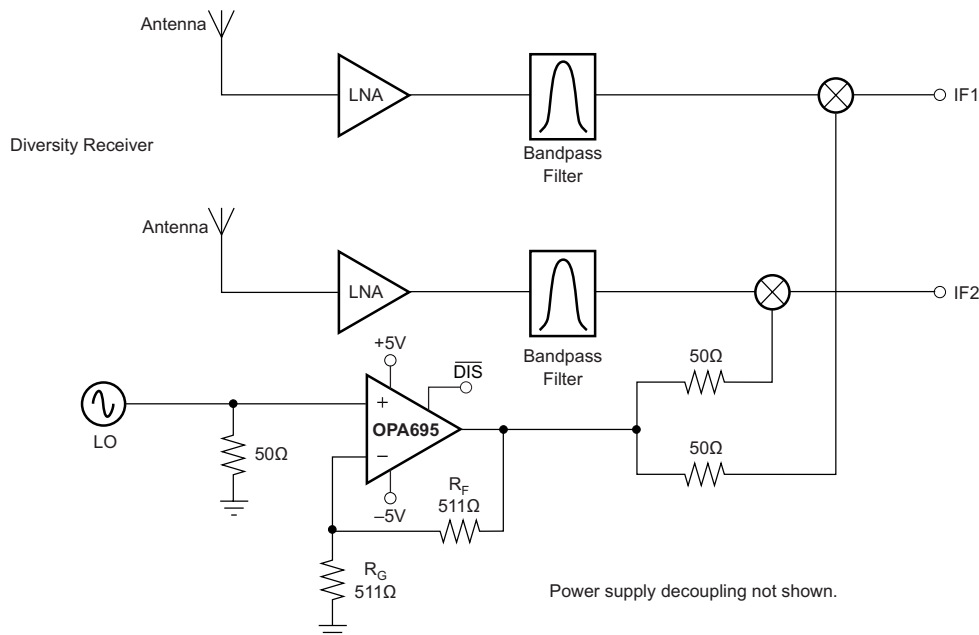

**Figure 54. Dual Output LO Buffer**
The OPA695 can also be used to buffer the Local Oscillator (LO) from the mixer. Operating at a voltage gain of  $+2$ , the OPA695 provides almost perfect load isolation for the LO, with a net gain of 0 dB to the mixer. Applications through 1.4-GHz LOs may be considered, but best operation would be for LOs  $< 1.0$  GHz at a gain of  $+2$ . Gain can also be provided by the OPA695 to drive higher power levels into the mixer. One option for the OPA695 as an LO buffer is shown in Figure 54. Because the OPA695 can drive multiple output loads, two identical LO signals may be delivered to the mixers in a diversity receiver by tapping the output off through two series 50-Ω output resistors. This circuit is set up for a voltage gain of  $+2$  V/V to the output pin for a gain of  $+1$  V/V (0 dB) to the mixers, but could easily be adjusted to deliver higher gains as well.